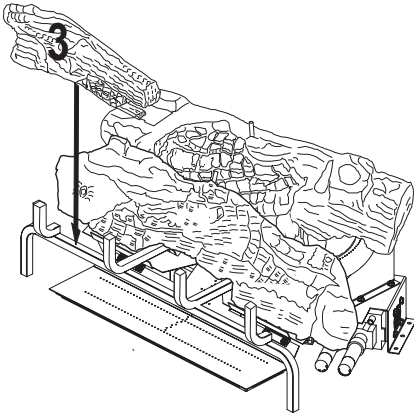

Figure 39 - Installing Log # 3
2. Place the front left log (#3) onto the base assembly between the middle log (#2) and the grate fingers. The back of the front left log (#3) will rest against the front of the middle log (#2). The notch at the end of the front left log (#3) will fit around the grate bar. See Figure 39, page 18.